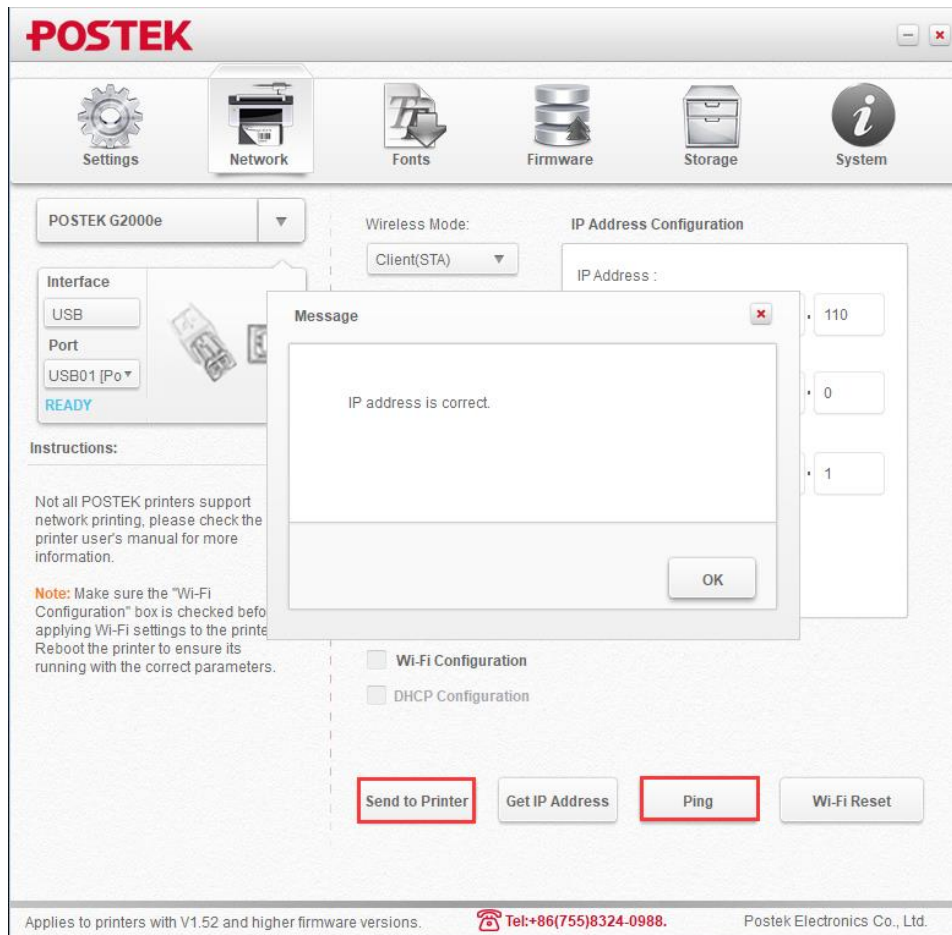

Figure 2-25 Successful Configuration
- Click “Send to Printer”, the [MEDIA] and [RIBBON] indicators will blink simultaneously, when the two indicators are lit and return to a steady state, click “Ping” to check whether the configuration is successful or not, as shown in Figure 2-25.